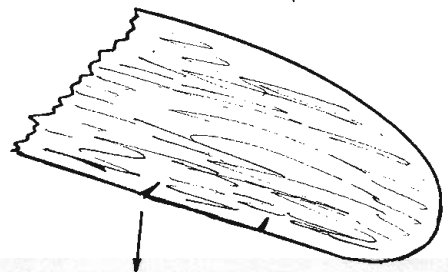

FIGURE 6
*Rolls*—The glider spins about its long axis. Cut a trim tab into the wing that begins to go down at the start of the roll (clockwise roll—right wing). Moisten, then bend this tab down until the roll is gone (Fig. 6).